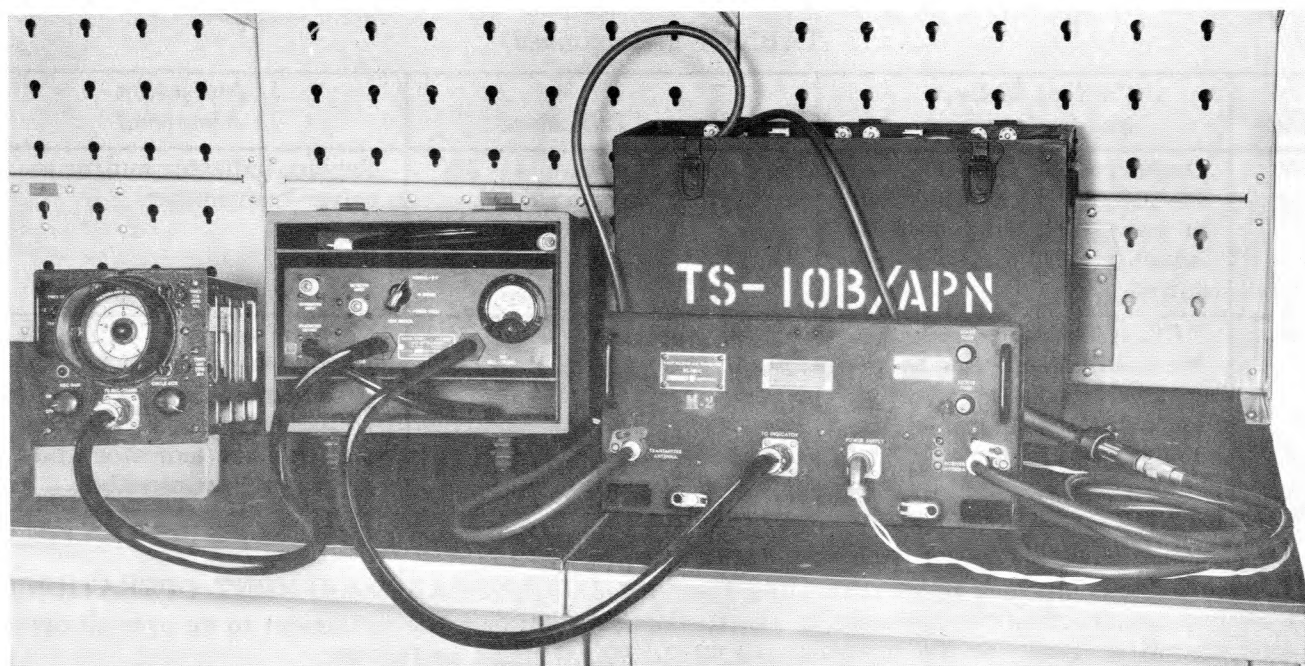

Figure 5-1. Bench-Test Setup, Using Test Sets TS-23/APN and TS-10B/APN
b. Connect Test Set TS-10B/APN or TS-10C/APN to receiver-transmitter as follows: Connect TRANSMITTER ANTENNA to D-HIGH of test set, using 8-foot cable CA-103 or CG-108/APN. Connect chain end of Attenuator L-101-A to A-LOW. Use the second 8-foot cable to connect other end of attenuator to RECEIVER ANTENNA. Connect 12-inch cable between B-LOW and C-HIGH. Set attenuator at 63. Figure 5-1 illustrates the complete test setup.